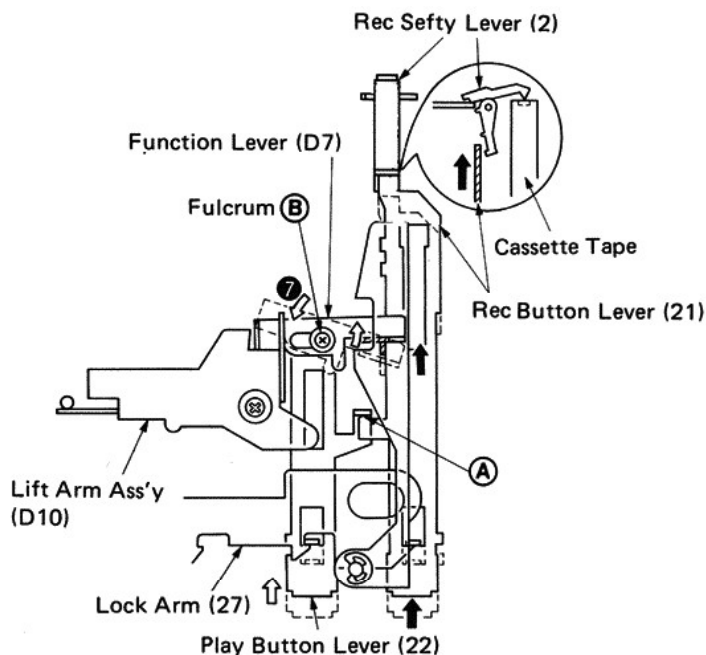

Fig. 30
- 1 When a cassette tape is mounted in position and the REC button is pressed, the REC button lever (21) and the PLAY button lever (22) are locked by the lock arm (27) since these two levers are interlinked with each other at Point A.
- 2 When the REC button lever (21) slides the function lever begins to rotate around the fulcrum B in direction 7. (Fig. 30)